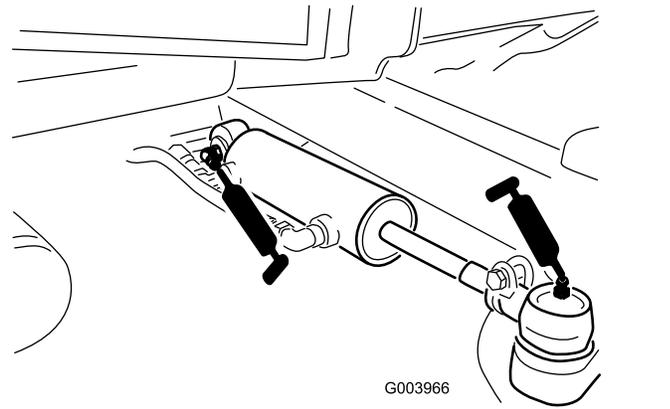

Figure 68
- Steering-cylinder ball joints (2) (Figure 68)